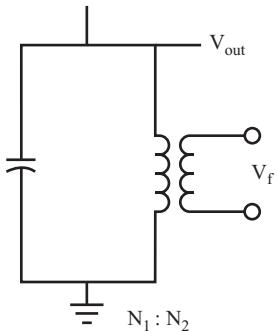

FIGURE 9.14
- 18** Figure 9.14 shows a parallel LC circuit in which the feedback voltage is taken from the secondary coil of a transformer. The formula used to calculate the output voltage of a secondary coil is covered in problem 6 in Chapter 10, “The Transformer.”